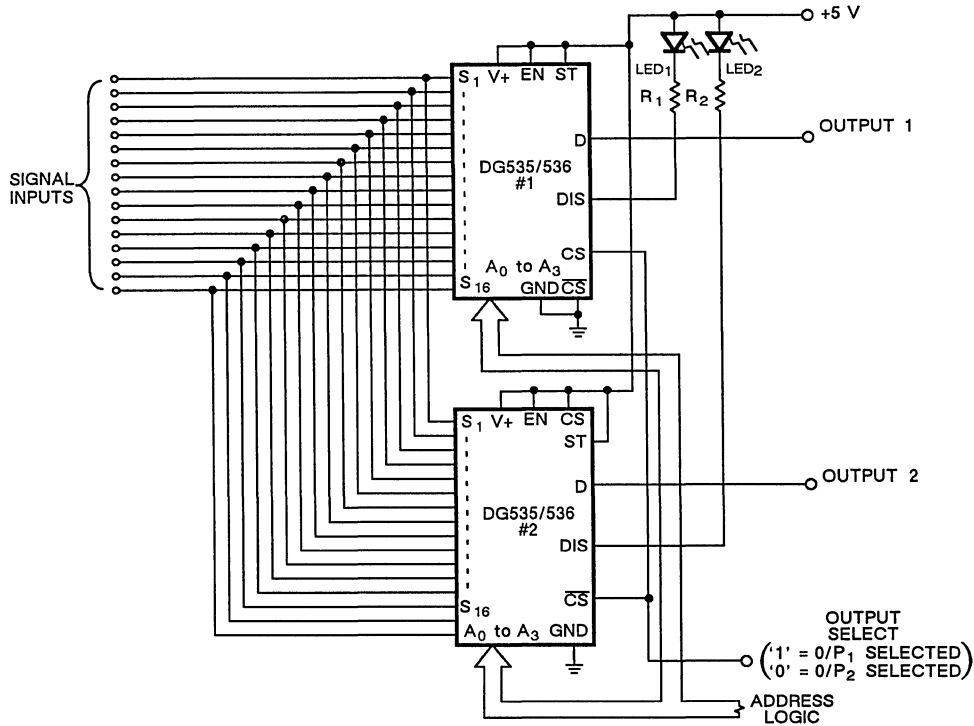
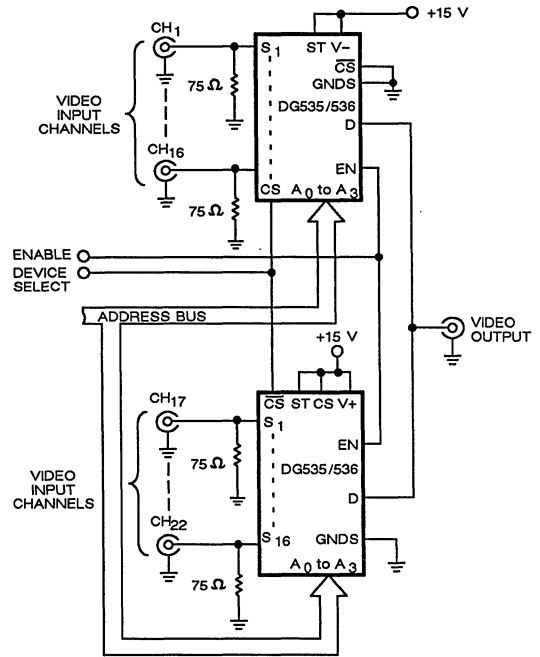
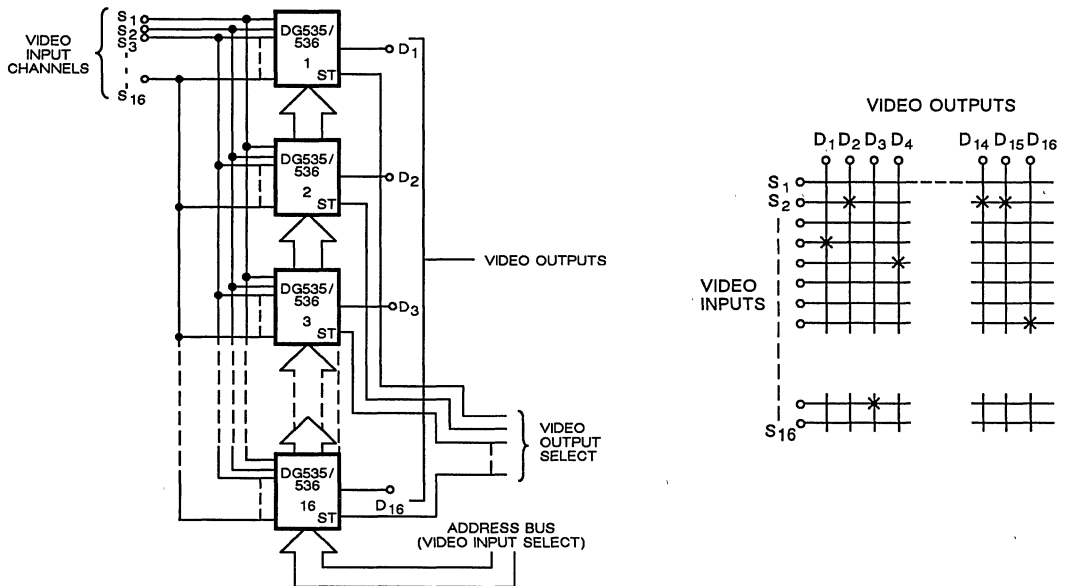

Figure 18. The DG535/536 as a 16 x 2 Matrix Switch
Figure 19. 32-Channel Multiplexer
Figure 20. 16 x 16 Video Crosspoint Circuit
Figure 18 illustrates how the DIS (disable) pin can be used to indicate which output is selected. When logic 1 is applied to output select, device 1 is enabled and device 2 is disabled. With device 1 enabled, the DIS pin is connected to signal ground, thus turning LED 1 on. With device 2 disabled (due to  $\overline{CS}$  being 1), its DIS pin represents a high impedance to ground and LED 2 is off.
The circuit in Figure 18 also illustrates how the chip select inputs can be used. As shown in Figure 19, a 32-channel single-ended multiplexer can be configured without external chip select circuits. This circuit makes use of the CS and  $\overline{CS}$  inputs which allow device selection from a single control line.
The basic circuit shown in Figure 18 can be extended and elaborated to give a 16 X 16 matrix for video crosspoint applications such as central routers used in video studios. This circuit, shown in Figure 20, allows source (or video input) to be connected to any video output (or any number of outputs). The strobe input (ST) on each device is used to latch the appropriate address into that particular device. By strobing the required address into each device sequentially, any crosspoint connection can be made.
The circuit shown in Figure 20 can be used as a digital cross-point to replace expensive, power consuming ECL crosspoint ICs. Besides handling raw digital data, the DG535/536 can also be used for other forms of data transmission, such as FSK and PCM systems.
RZ (returns to zero) PCM data consists of three discrete (ternary) levels to overcome long periods of zeroes (Figure 18). Digital signals can degrade beyond legibility after only a few hundred yards of travel down a transmission line. Therefore, the PCM signals must be regenerated at regular distances to avoid excessive distortion.